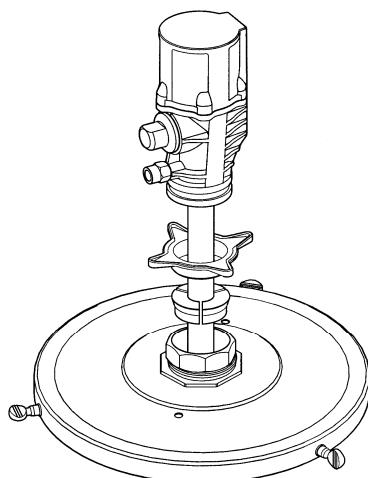

Fig. 3
3. Put the pump vertically into the drum / pump bracket and position the pump so that the outlet comes into the desired position. Lock the pump with the bung adaptor (see Fig. 3).
3. Sätt ner pumpen vertikalt i fatet, vrid pumpen så att utloppet kommer i önskad riktning och lås fast pumpen med fatadaptern (se Fig. 3).